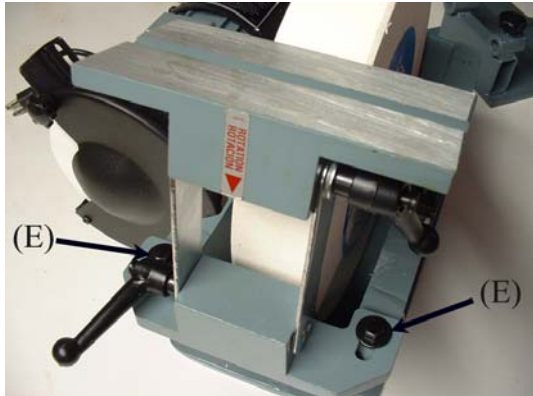

Fig. 6 Removal of Flat Toolrest
Remove the Delta 23-700 flat toolrest by loosening the two 1” hex head bolts (E) that secure it to the machine (Figure 6).